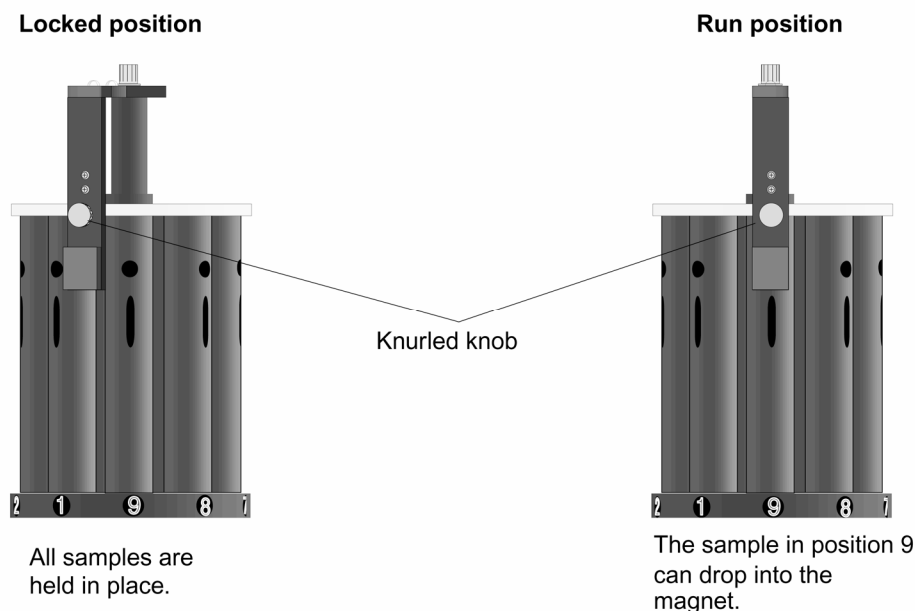

Figure 5. Carousel and sensor arm in “locked” and “run” positions, respectively.
- Alternatively you can use the tab buttons in the windows that are displayed by clicking on **SETUP** Menu buttons. These are located both in the upper command window area and also in the lower text window areas (see **Figures 5 and 6**).